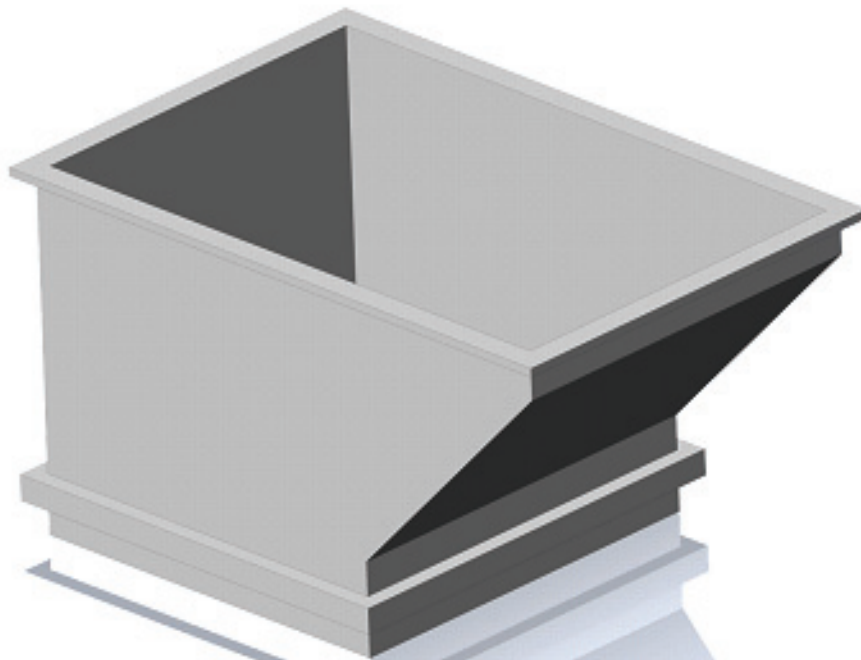

Figure 9-1 Fluidised powder box, 50 Kg
- See Fig. 9-1. For long spray runs a fluidised powder box with a 50kg capacity can be used to feed the powder guns. This has the benefit that the powder box does not have to be refilled or changed as regularly. The assembly (part number 737701) is delivered complete. If you also require a lid, this is available using part number 737703.